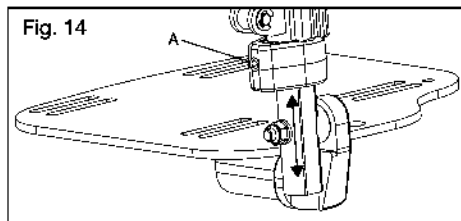

Fig. 14
- a. Loosen the set screw (Fig. 14:A) with a 4mm Allen wrench.